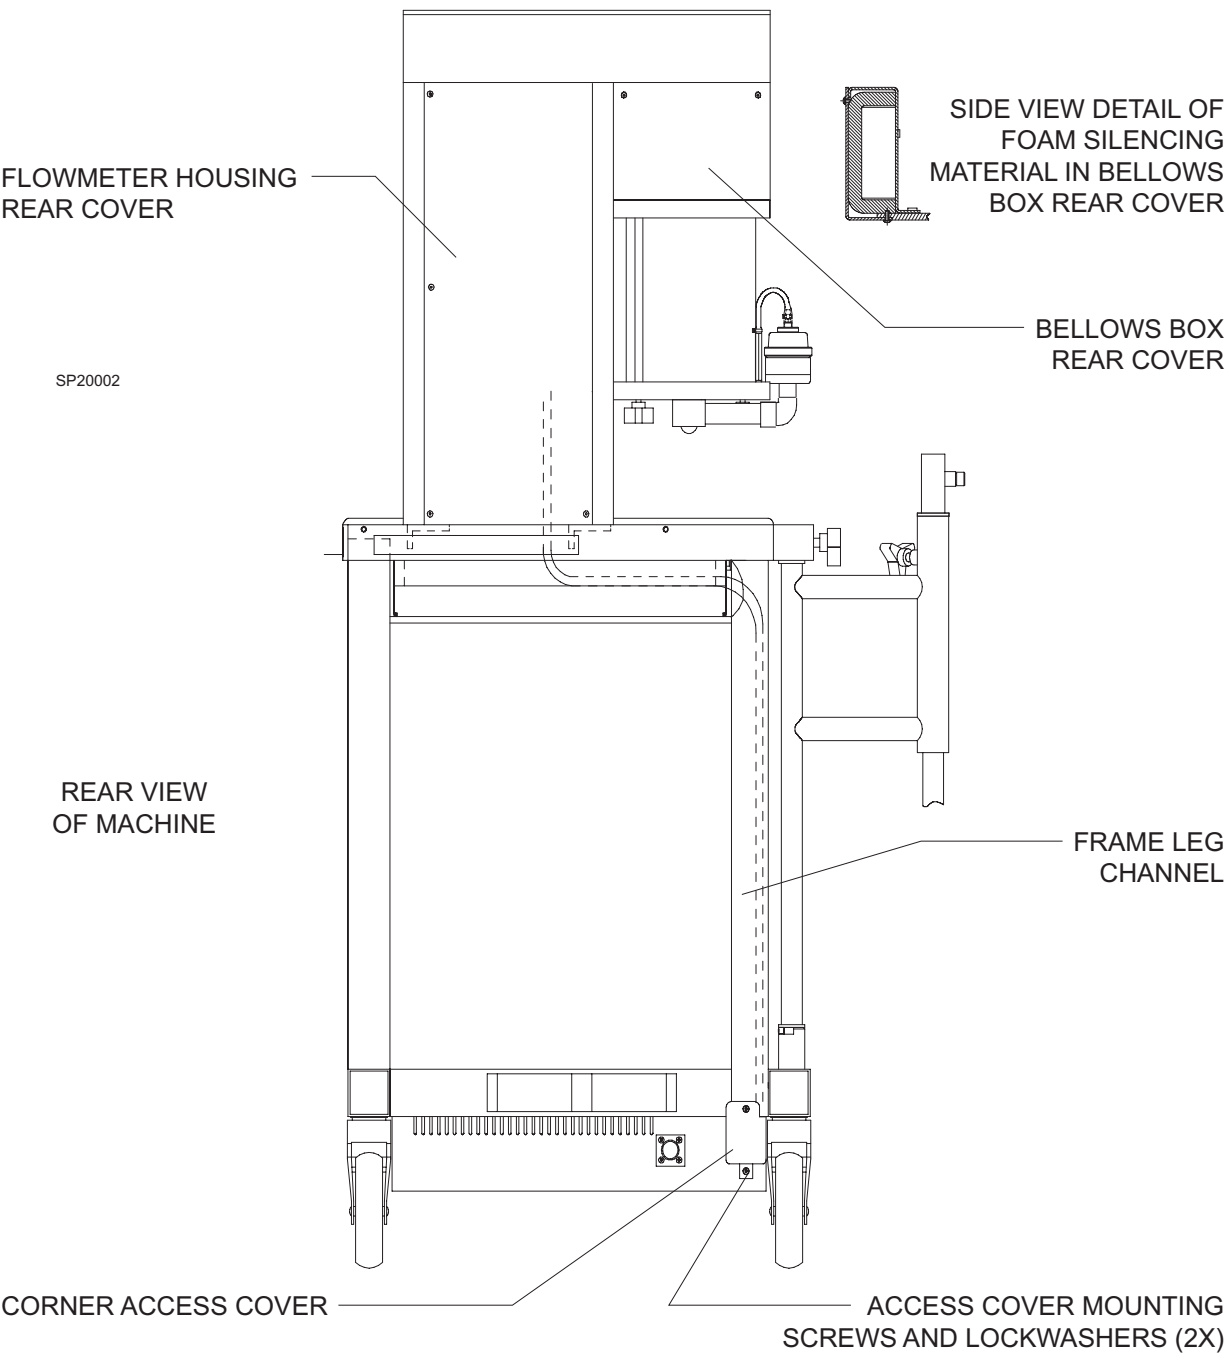
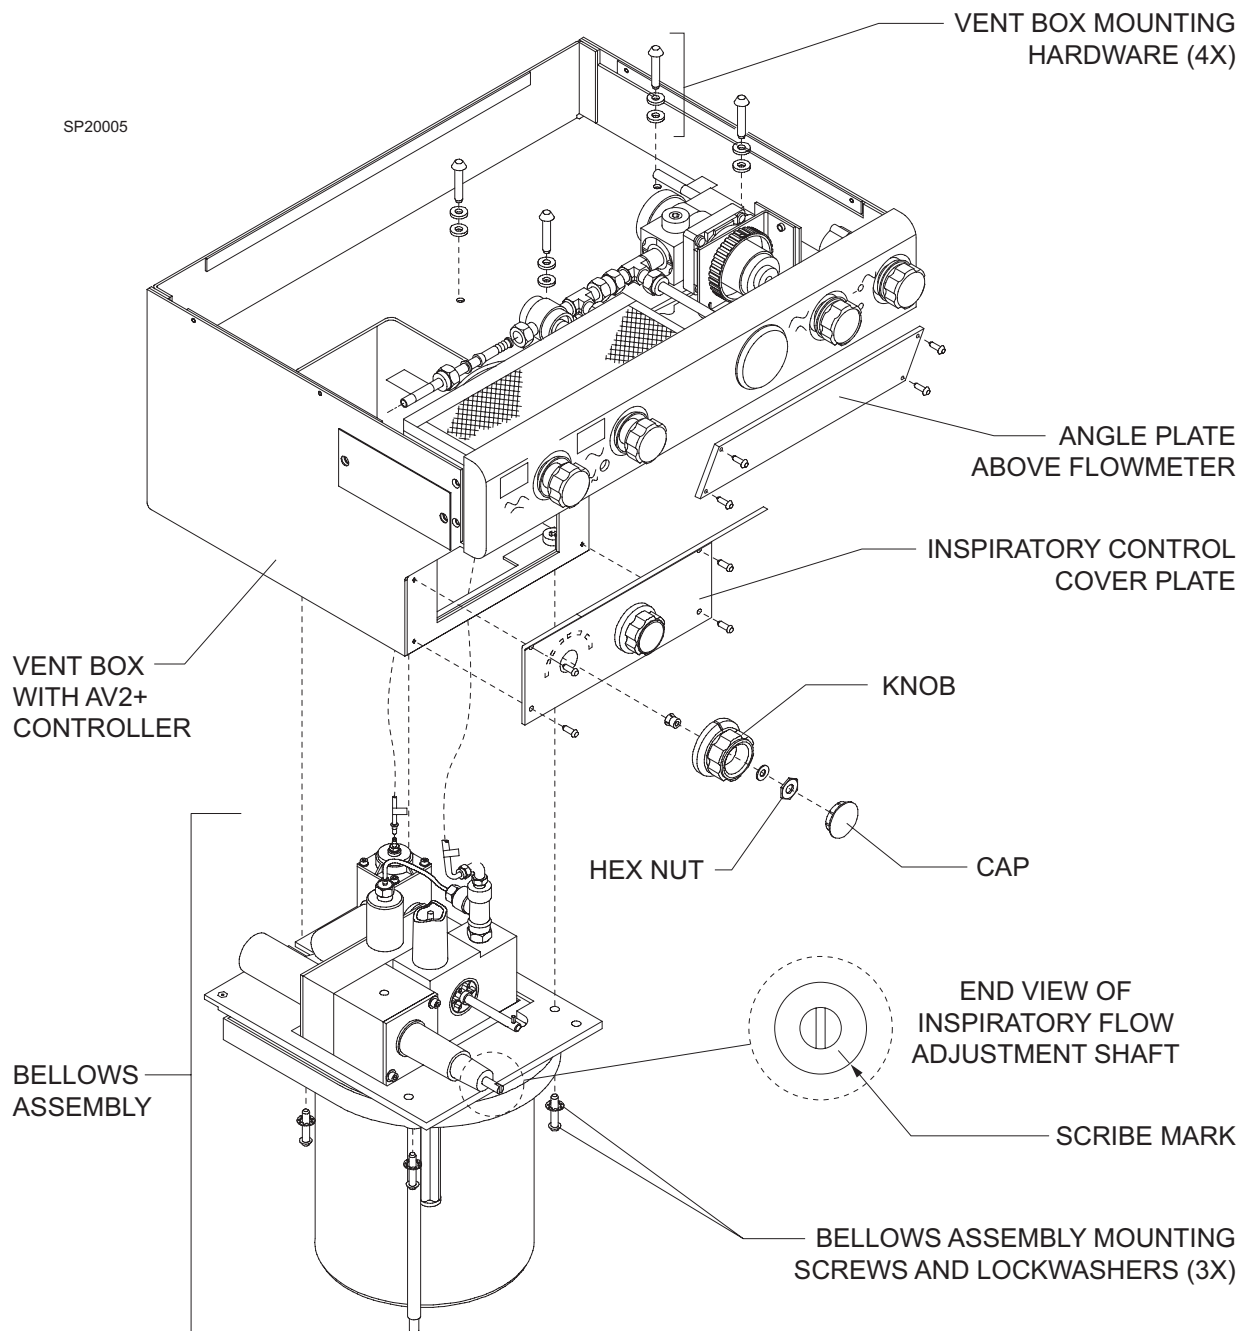

FIGURE 2. Location of Access Covers
FIGURE 5. Bellows Assembly and Vent Box Removal
10. At the rear of the bellows box, remove the screws holding the grille cover, and loosen the two bottom screws. Carefully remove the bellows rear grille cover. See Figure 2.
20. Remove the cover cap from the inspiratory pressure limit control knob. Loosen the hex nut approximately one turn and remove the knob assembly. See Figure 5.
| <p>51. Install the new vent box and AV2+ Bezel assembly on the flowmeter housing and secure it with the original hardware. See Figure 5.</p> <p>52. Support the alarm channel up to the ventilator housing and tighten the two screws securing the alarm channel.</p> <p>53. Carefully reinstall the bellows housing assembly using the original hardware. Ensure that the exhaust port at the rear of the bellows assembly is through the port hole in the ventilator housing.</p> <p>54. Carefully position the foam silencing material in the vent grille rear cover and reinstall it using the original hardware. See Figure 2.</p> <p>55. Align the tidal volume adjustment knob on the angle plate with the roll pin on the bellows assembly. Ensure that the PUSH TO TURN knob works properly, and secure the tidal volume adjustment angle plate using the original hardware.</p> <p>56. Set the inspiratory flow adjustment shaft so that the scribe mark on the shaft housing is pointing at "30" cmH₂O.</p> <p>57. Install the inspiratory flow knob assembly onto the shaft and position it with the white indicator at "30". Tighten the hex nut in the center of the knob, and reinstall the cover cap on the knob.</p> | <p>58. Reinstall the angle plate over the flowmeters with the foam strip against the top of the flow shield.</p> <p>59. Carefully feed the fiber optic cable from the bezel assembly down through the flowmeter housing and continue through the hollow frame leg channel. Be careful not to kink the fiber optic cable.</p> <p style="padding-left: 20px;">Continue to feed the fiber optic cable down the frame leg channel and pull the slack out of the bottom of the frame leg.</p> <p>60. Reconnect the ¼ in. flex tubing from the bellows assembly to point E on the ventilator controller as shown in Figure 8.</p> <p>61. Reconnect the ¼ in. flex tubing from the flowmeter housing to point A on the ventilator controller as shown in Figure 8.</p> <p>62. Reconnect the 1/8 in. flex tubing from the bellows assembly to point D as shown in Figure 8. Secure the connection with the press-on hose clamp.</p> <p>63. Reconnect the 1/8 in. flex tubing marked "A" to point B as shown in Figure 8.</p> <p>64. Reconnect the 1/8 in. flex tubing marked "B" to point C as shown in Figure 8.</p> <p>65. Feed the wire harness from the 9-pin connector on the alarm channel up into the ventilator area.</p> |